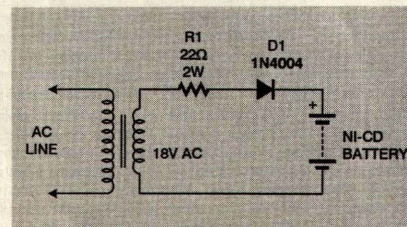

**FIG. 2**—WHILE THERE ARE many different NiCd-battery charger circuits, a simple resistor/diode combination like this one will do the job.
**Q** I have seen a number of NiCd charger circuits like the one in Fig. 2. Are the values shown appropriate to charge the battery in 6 to 7 hours. If there is a rule of thumb to follow, it would be appreciated. — P. S. M., Eaton, IN.